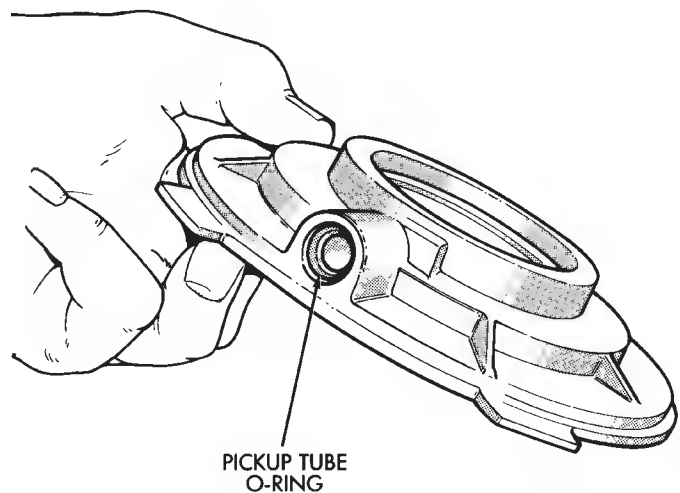

Fig. 72 Pickup Tube O-Ring Installation
(57) Install new pickup tube O-ring in oil pump (Fig. 72).